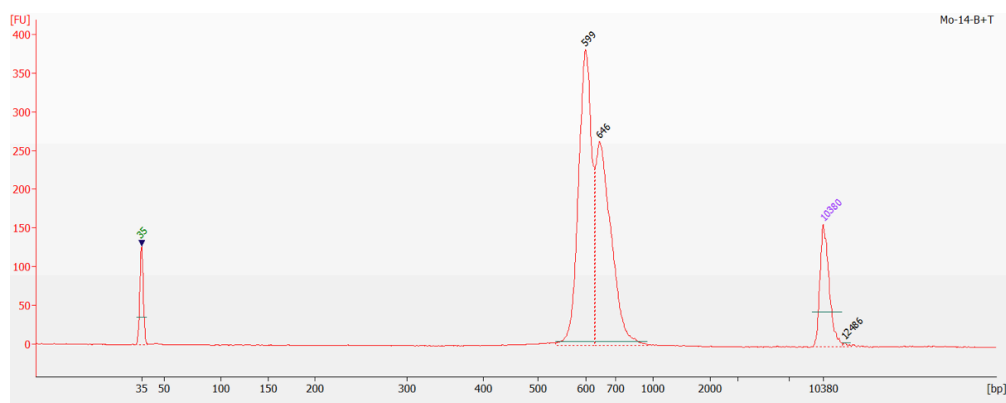

Figure 6. Example of B Cell Receptor chains and T Cell Receptor chains library size distribution on a Bioanalyzer.
56.3 BCR + TCR chain libraries will have an average size of 632 bp (Figure 6).